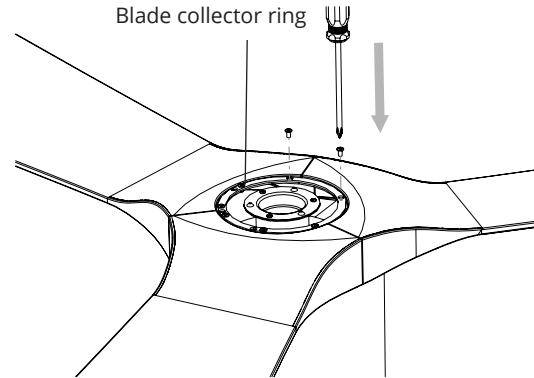

FIGURE 9
3. Secure the bottom of the fan blades together using the provided blade collector ring and hardware (Fig 9).